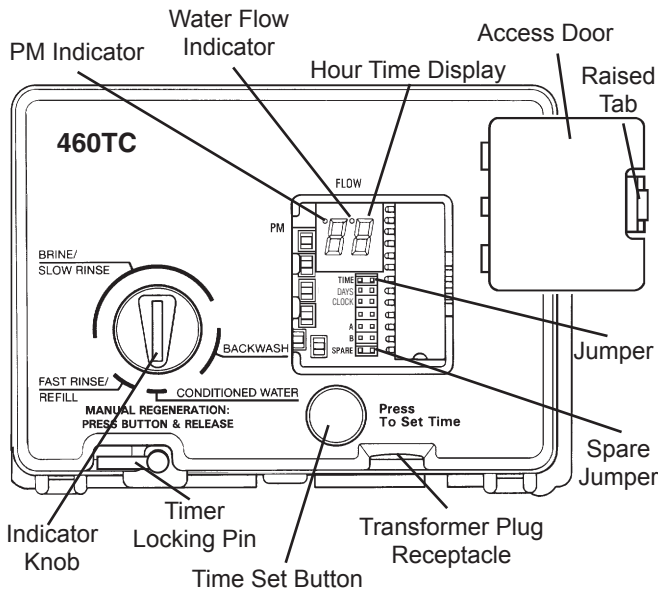

Figure 5
Open the access door by pushing the raised tab on the door toward the left while pulling the tab out (Figure 5).
**NOTE:** The Timer Locking Pin should always be horizontal (Figure 5) during operation.